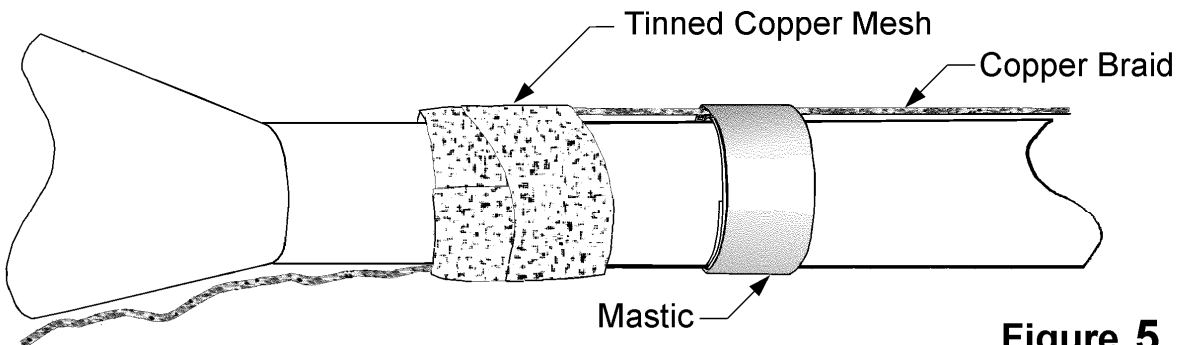

Figure 5.
8. Apply two layers of mastic tape[⊗] under and two layers over the solder blocked area of grounding braid (Fig. 5).